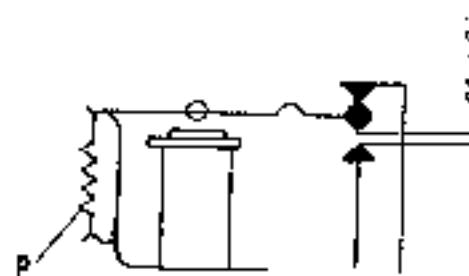

Fig. 78.
1. With a lightly made bottom and centre contact, the gap between the core and the centre rivet should be 0.2 to 0.3 mm (Fig. 78).